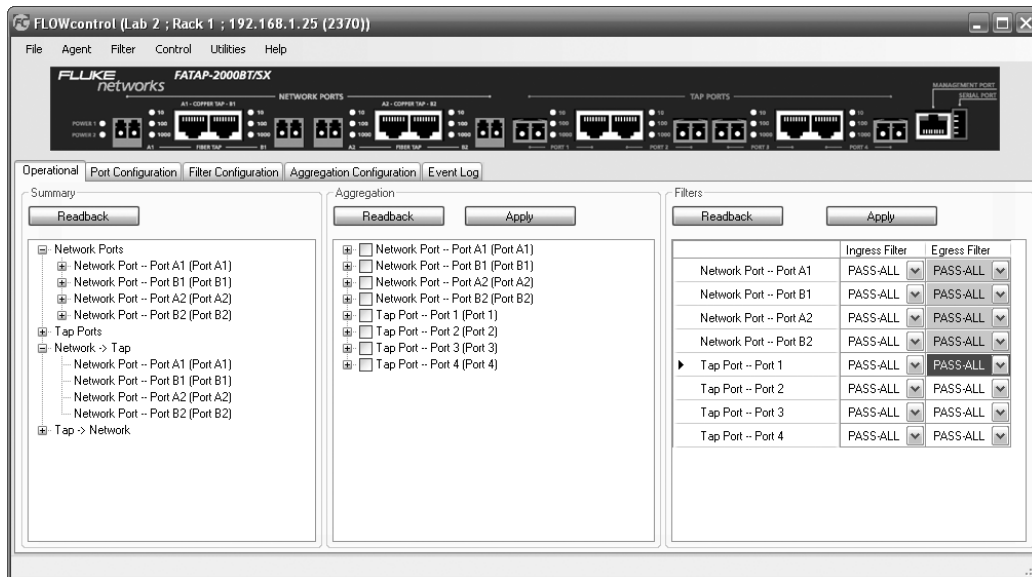

Figure 36. FlowControl™ main window, connected to the FATAP-2000BT/SX
- You will be presented with the login screen. The default username is **Administrator** and the default password is **admin**. After logging in, the FlowControl™ Main Window appears. An image of the Filtering Link Aggregation Tap is displayed across the top of the window. The image displayed will automatically update to the correct image. A FATAP-2000BT/SX is shown in **Figure 36**.